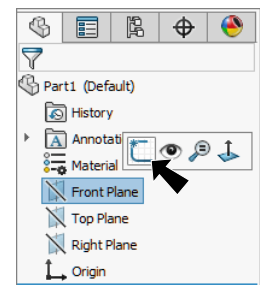
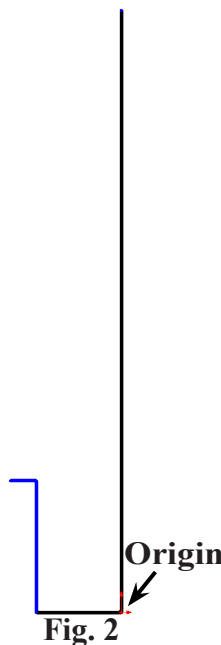

Fig. 1
Fig. 2
Step 2. Click **Front Plane**  in the Feature Manager and click **Sketch**  on the content toolbar, **Fig. 1**.
Step 3. Click **Line**  (L) on the Sketch toolbar.
Step 4. Starting from the Origin  sketch lines, **Fig. 2**.